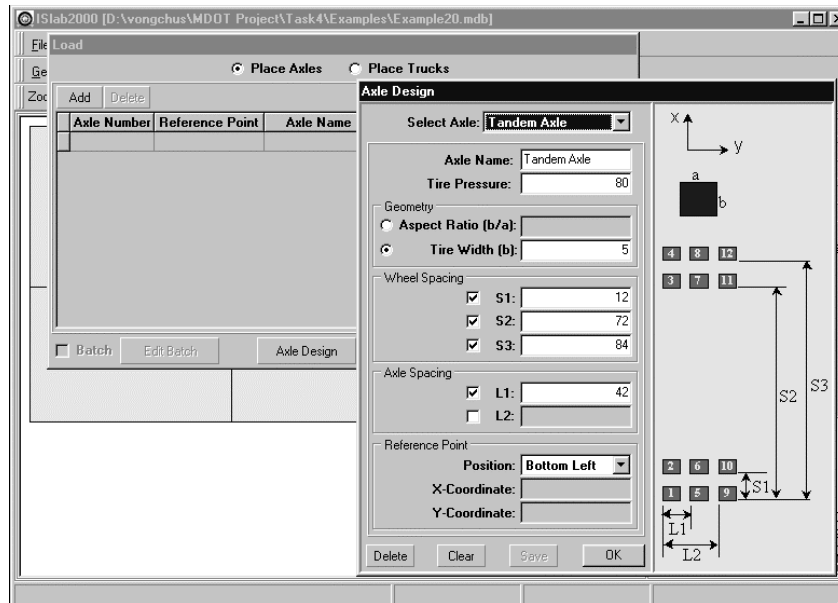

Figure E20-2: Edit Inputs for the Load Module
(see Figures E20-2 through E20-4)
- Step 2: Click **Axle Design** to open the axle design panel (see Figure E20-2), and then enter **Tandem Axle** in the **Axle Name** field.
- Step 5: Enter wheel spacing information as shown in Figure E20-2.